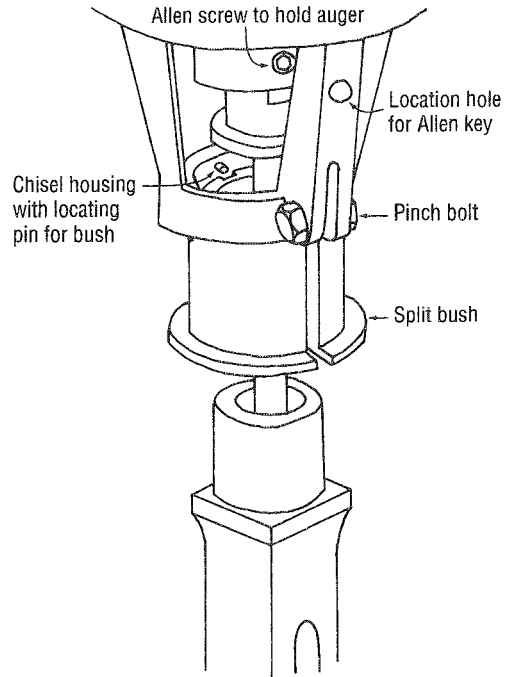

Fig. 4.21 Tooling assembly.
2. Assemble the four components together as shown in **Fig. 4.21**. Ensure: